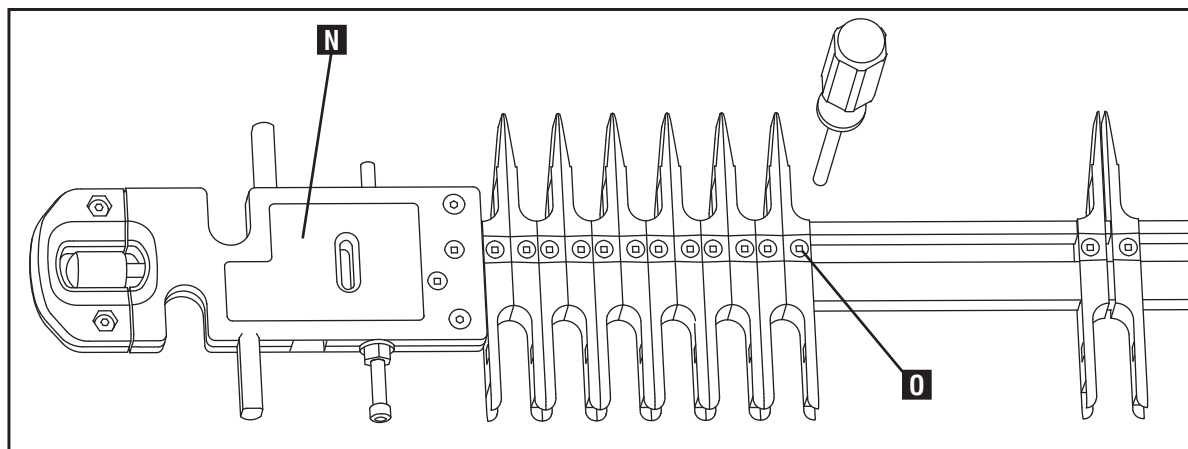
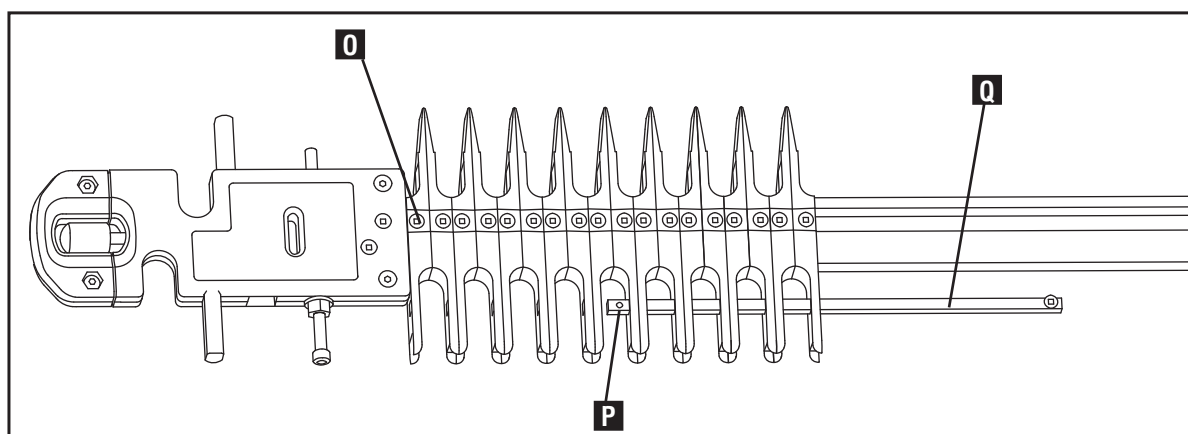
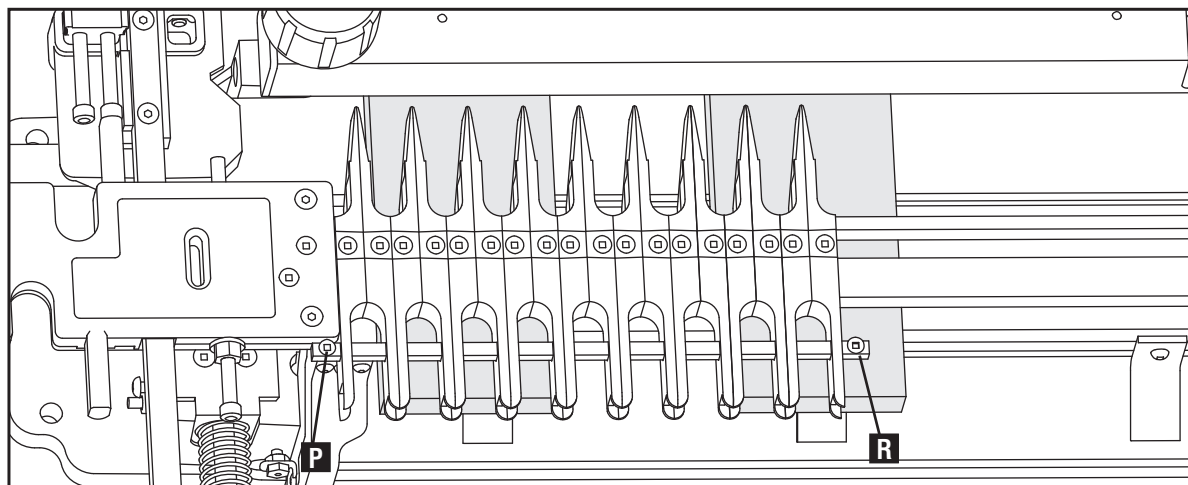

Fig. F4
Fig. F5
Fig. F6
- Mount template with "A Tails" label (N) Fig. F4 placed up and to the left.
- Loosen all finger screws (one is shown at (O)) and slide all fingers to the left.
- Remove set screw, which is located at (P) Fig. F5 at the end of bar (Q). Slide bar all the way through holes in fingers and replace set screw (P). Then tighten finger screws (O). Be sure set screw (P) and (R) Fig. F6 are in place so bar does not slide out.